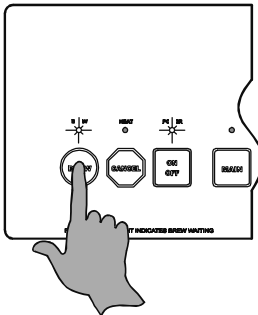

Fig. 7 Initiate a Brew
4. Remove the spray disk from the brew head (See figure 7): Press up on the spray disk ears, then turn the disk to the left to unlatch. Remove the gasket from inside the brew head.